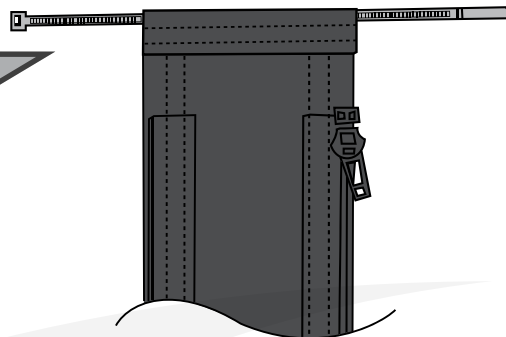

Figure 2
- ▶ 5. Engage the zipper at the torch end of the cable cover and begin closing the zipper, moving towards the machine end of the cable assembly. Zip the cover allowing the cables to lay flat as you zip. (see Fig. 2)